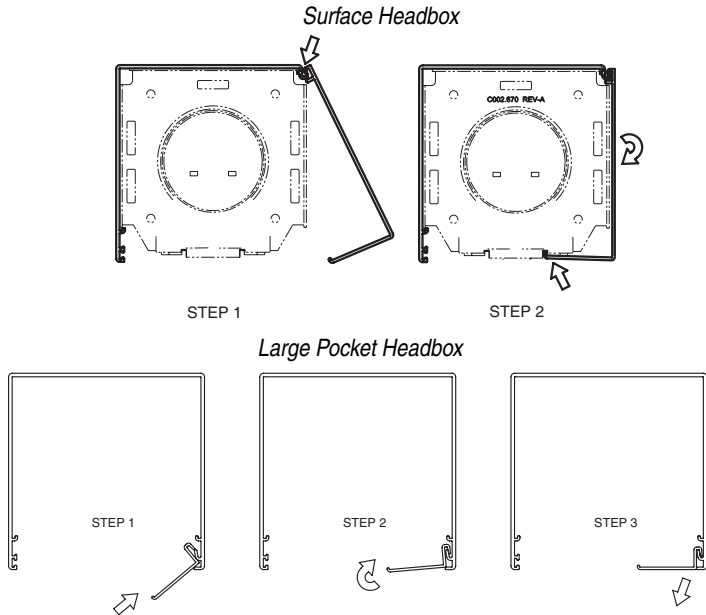

Figure 7
- ① Snap endcap covers onto endcaps.
- ② Place endcaps into back/top portion of wall/ceiling headbox or into pocket extrusion of large pocket headbox. Using pre-drilled holes in endcaps, mark the headbox for drilling.
- ③ Drill holes in back or top, depending on whether you will be mounting the headbox to the wall or ceiling, or in a pocket.
- ④ Attach endcaps and wall/ceiling headbox back/top or large pocket headbox extrusion to wall, ceiling or pocket using mounting hardware appropriate for site conditions.
- ⑤ Install shade following steps 3 through 5 under "Crank Operated Flex-Shades—Fascia".
- ⑥ Attach headbox fascia or pocket closure (see Fig. 7).